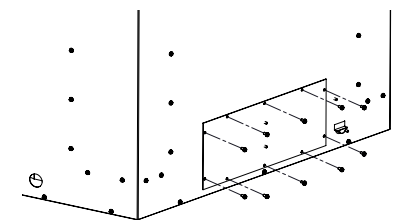
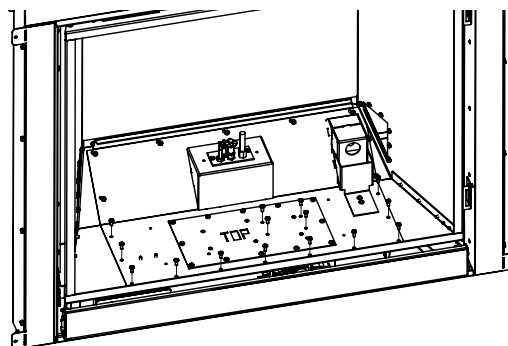
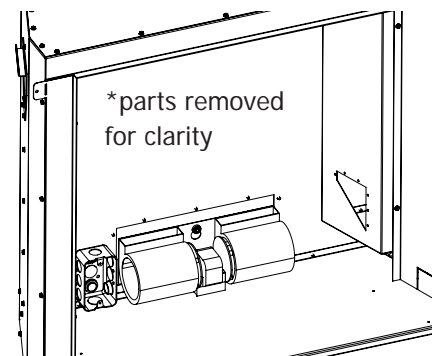

Figure 3: Fan Cover Removal
Figure 5: Valve Tray Removal
Figure 4: Fan Mounting
- 4a. If the appliance has not yet been installed into a construction enclosure remove the fan cover plate with the (10) screws at the rear of the unit using a 1/4" socket (see Figure 3); slot the fan into the silicone retainers on the opposite side as shown in Figure 4.
- 4b. If the appliance is already installed into a construction enclosure you will need to consult your Q2 owners manual on how to remove the interior firebox components. Once they are removed see Figure 5 on how to remove the valve tray using the (23) T-20 screws. Be careful not to damage the sealing gasket - If gasket gets damaged replace that section with high-temp silicone. Do not completely remove the valve tray just lift it up enough to get the fan inside and mounted onto the silicone grommets as shown in Figure 4.